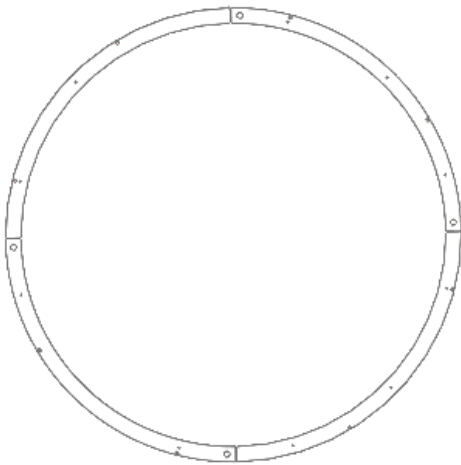

Fig.1
2. Surface mount bracket must not have gaps between each other when aligned together Fig.1